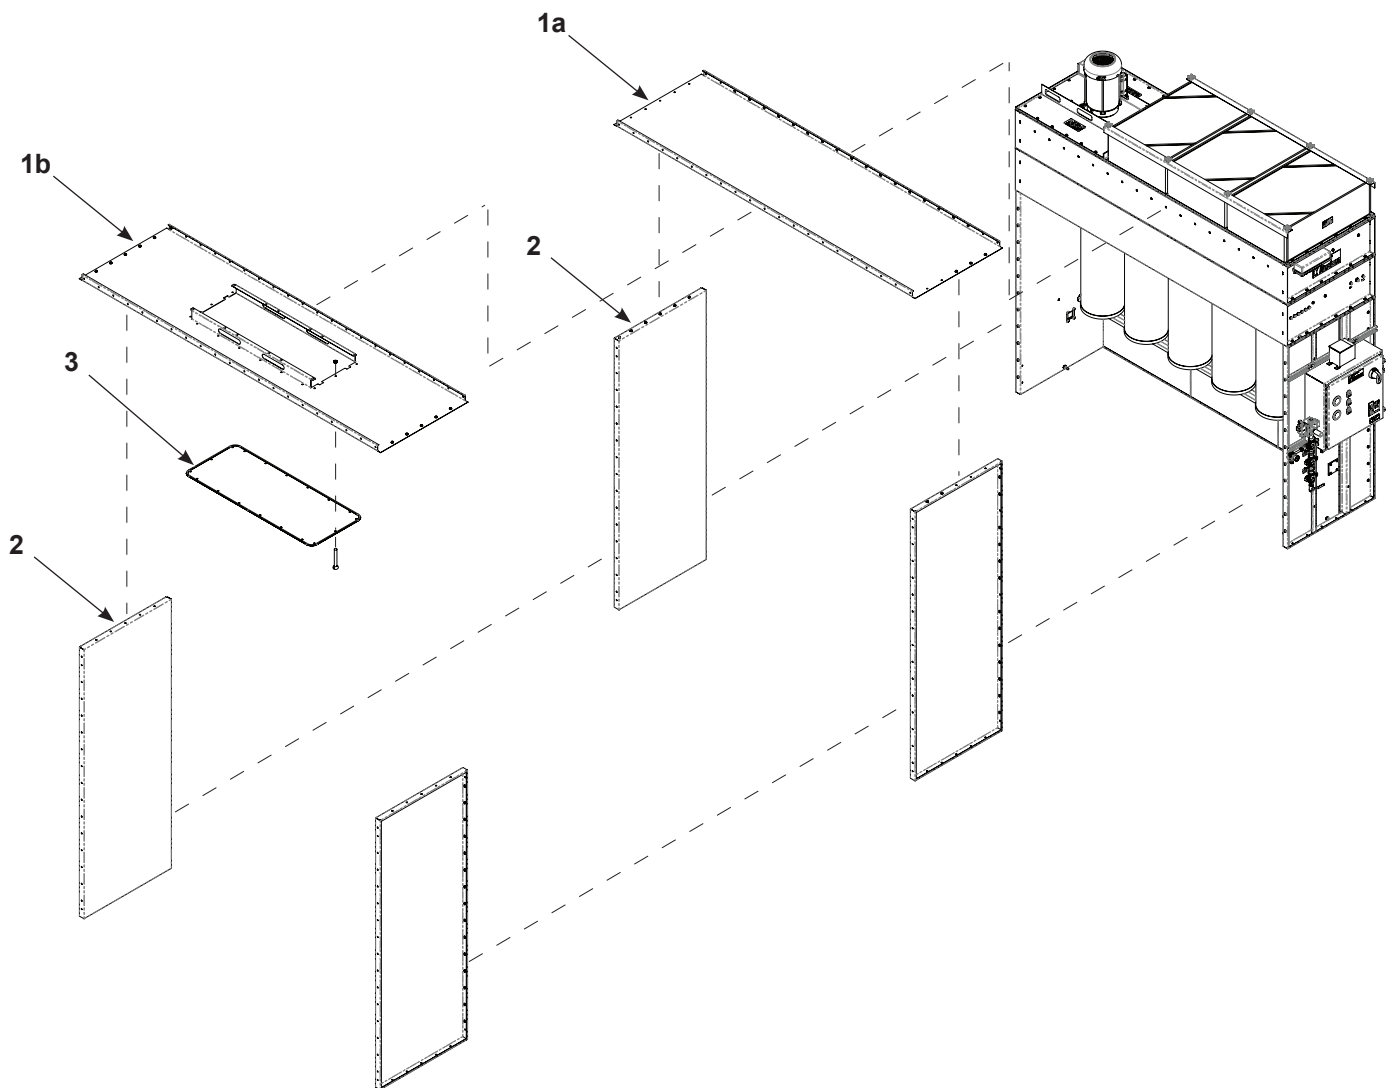

Figure 11 Installing Canopies
1. See Figure 11. Install the canopy side panels (2) using 5/16-in. hex screws and nuts.
2. Attach the roof panel (1) to the side panels (2), and then to each other using 5/16-in. hex screws and nuts.